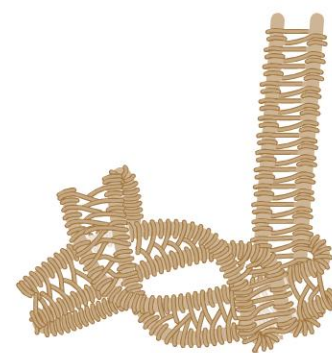

figure 5
- 11 Remove the ring from the mandrel. Hold the ring next to the fold made in Step 7. Fold the second end over. Push the weaving back if it spreads, then pass the wires through the ring shank's center as before (Figure 5).